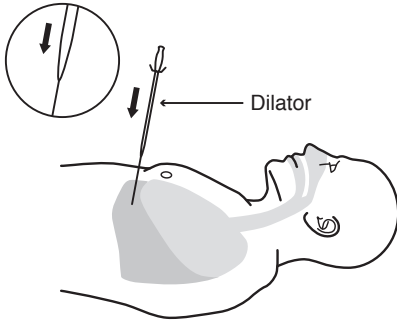

Fig. 4
18. Dilate the insertion site over the guidewire using the 12Fr dilator. (Figure 4)